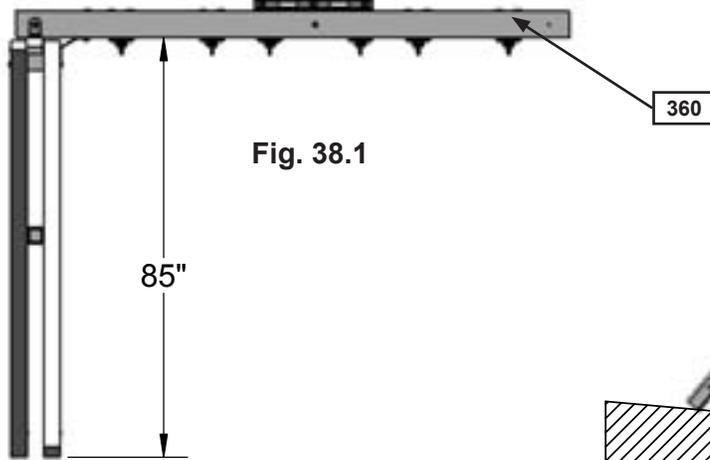

Fig. 38.1
A: Check to make sure the (360) SW Beam Engineered is level and the bottom of the beam to the ground measures 85". (fig. 38.1)